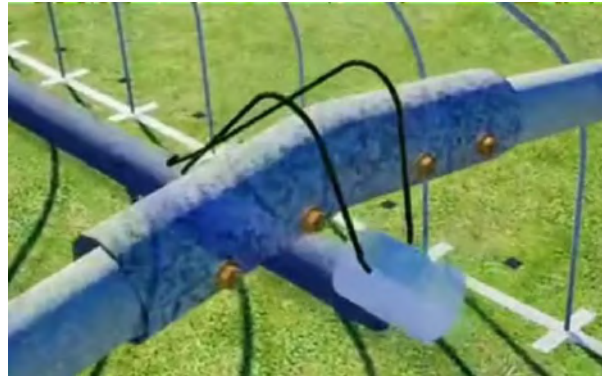

Figure 6
- Use the Spring clips (No. 18) to secure the Horizontal tubes (No. 5) to the connectors (No. 4), ensuring equal spacing. Position one leg per meter. Fill the pre-drilled holes as shown in Figure 6 & 7.